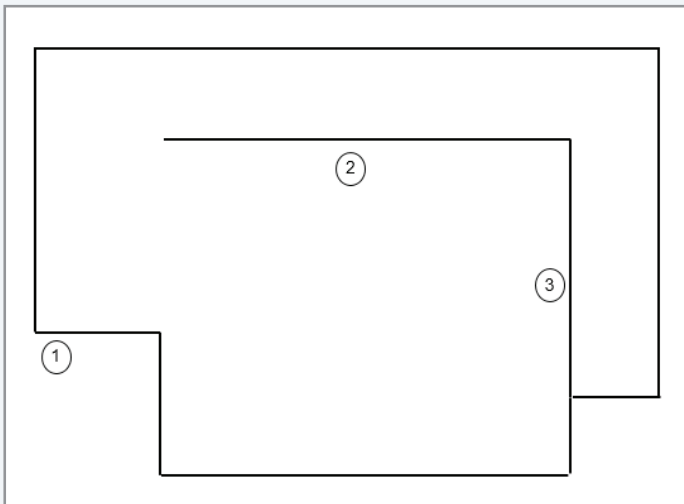

Figure 3a. Trace Ext Walls (1); Draw Interior Walls (2, 3)
1. Point and click to define the line segments comprising the exterior walls of the floor (Figure 3a, item 1).
2. Now trace individual walls within the floor plan. For example, lines might trace the wall along the entire length of a corridor. Figure 3a lines 2 and 3 show two walls of corridors added to the tracing.